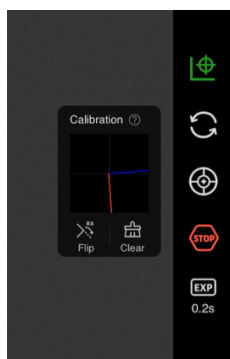

Figure 33. Calibrated ...
- a) Display the current calibration (Figure 33), this shows the current orientation of north/south/east west. RA is blue, Dec is red.
Note: ASIAir stores the calibration from one night to the next so if your rig is permanently set up, you will not need to redo it each night. If you assemble your rig each night you must **clear the previous calibration** (refer Figure 33) and repeat it. The calibration must also be cleared and repeated if the guider has been rotated (eg if you have a manual rotator in the image train), and should be repeated after a meridian flip.
Once calibration is completed ASIAir displays a red and blue line indicating the orientation of RA and Declination (Figure 33).